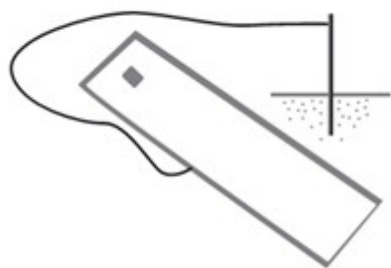
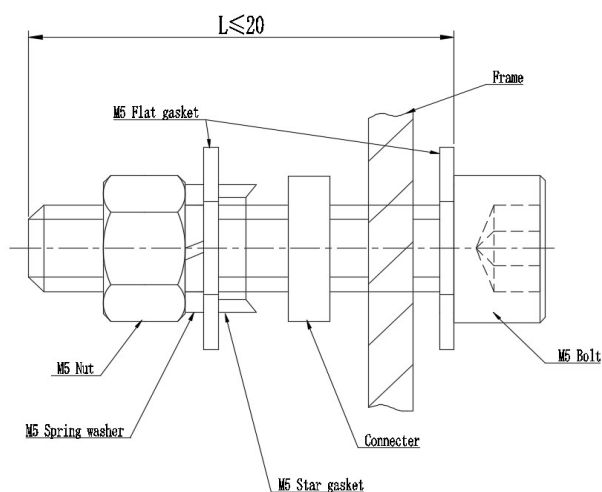

Figure 9 Module grounding circuit
Figure 10 Installation diagram of grounding bolt
4.1.3 The aluminum frame and support of the module must be grounded, as shown in Figure 9. Each module has a grounding hole and is marked on the frame (it is recommended that the series / parallel connection of each module must be grounded once). The installation method of grounding bolt is shown in FIG. 10. The grounding wire and frame can be reliably grounded by the prepared grounding hole. And the flat washers, spring washers and nuts are matched by installing bolts $\text{M5} \times 10 \sim 15$. The modules and the earth wire shall be perfectly connected by connecting plugs. Negative grounding inverter can be installed to prevent PID phenomenon.